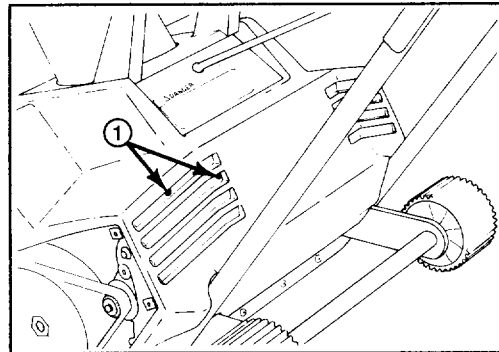
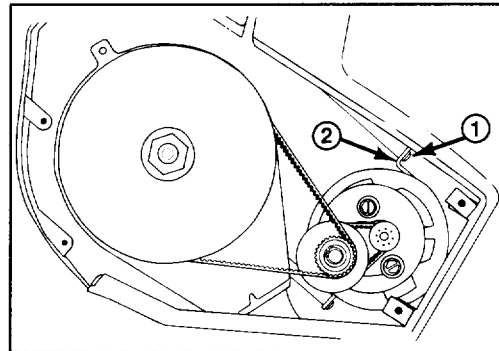

Figure 14
Figure 15
3. Insert a Phillips screwdriver through holes in rear of shroud (Fig. 14) and loosen the (2) screws holding the motor mounting brackets (Fig. 15). Use caution not to damage wires behind shroud.
Note: If motor was rotated to loosen the belt, you must first retighten the (2) mounting bracket screws through back of shroud (Fig. 14 & 15).
8. Rotate the mounting plate clockwise until the belt is tightened to 32 lbs, then tighten the (2) 5/16" socket head screws securing mounting plate.